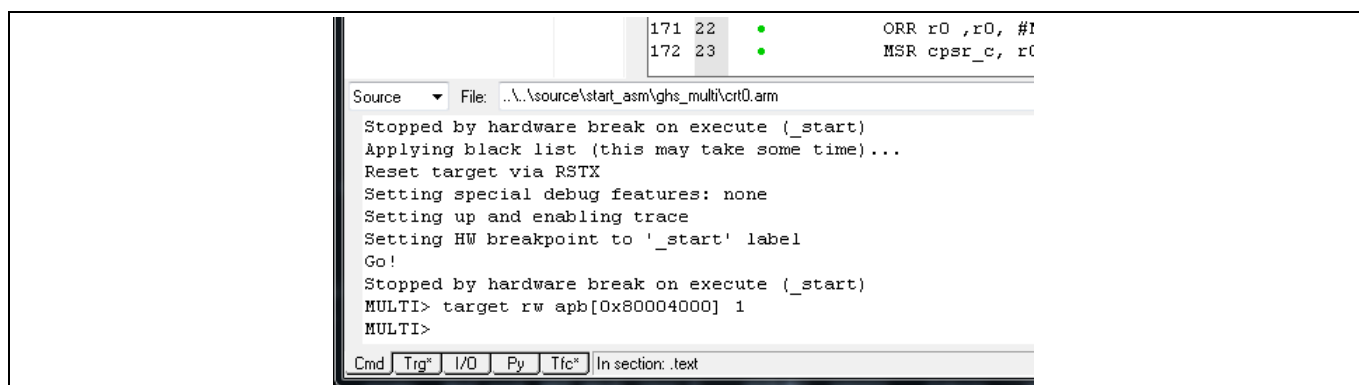

Figure 13 Input command line
2. Input the following command in the command line of the GHS MULTI debugger, as shown in **Figure 13**: